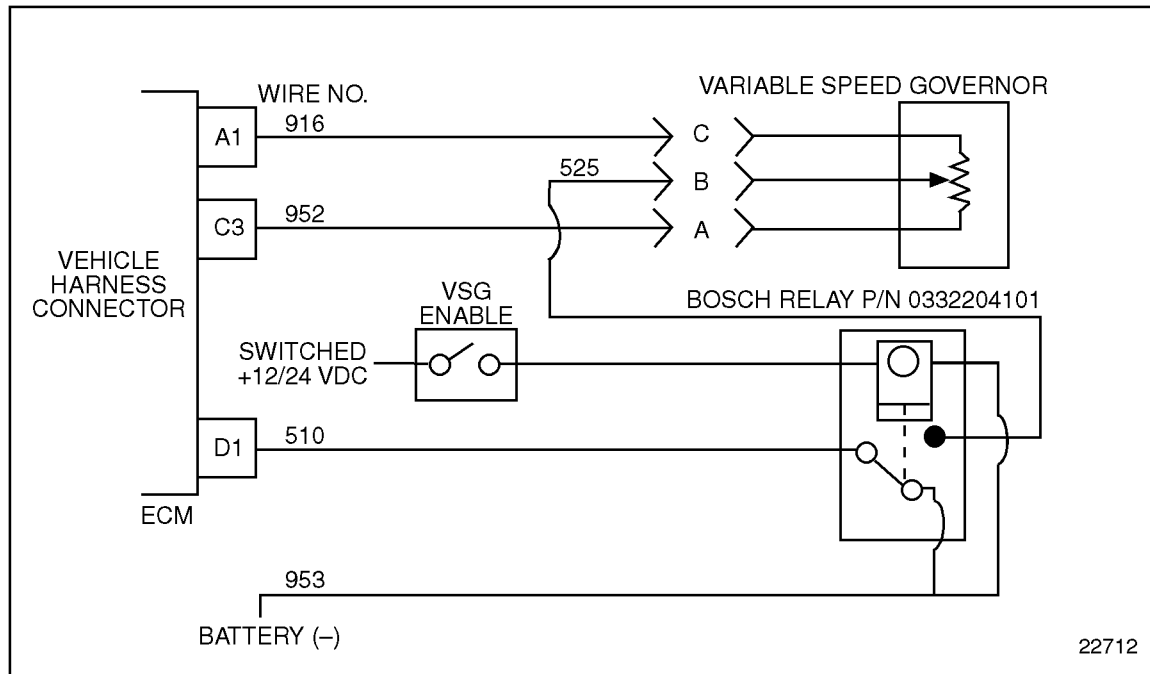

Figure 12-4 Variable Speed Governor Circuit
5. Measure resistance between A3 (#916) and D1 (#510). See Figure 12-4.